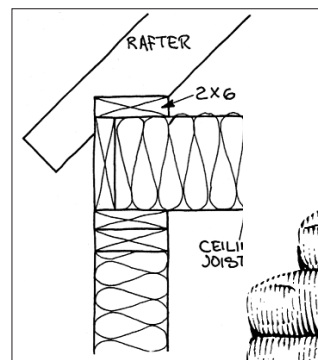

Figure 3. To get full insulation at the eaves, use raised-heel trusses or set rafters on top of a 2x6 sitting above the joists, as shown.
- For best results with attic insulation, use raised-heel trusses, or set rafters on top of a 2x6 that rests flat on top of the ceiling joists rather than setting rafters beside them (see Figure 3).